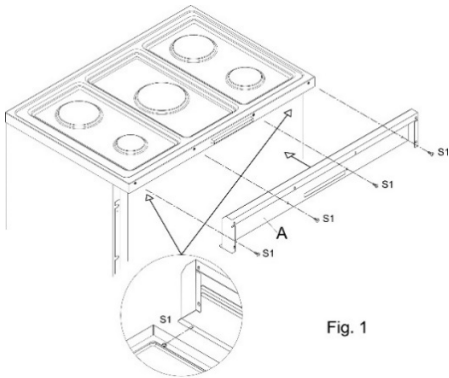

Fig. 1
2. Place the backguard on the hob in correspondence with the references and fix the screws S1 and S2 as in fig.1.